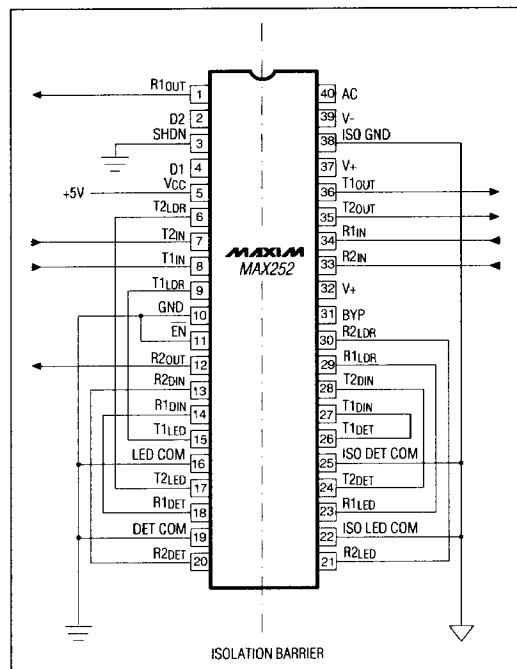

Figure 1. Typical Interconnections
Figure 1 shows the typical interconnection for a complete 9600 bits/sec. transceiver. Important layout considerations include:
- * For maximum isolation, the isolation line through the center of Figure 1 should not be breached; connections from each side should be kept separate.